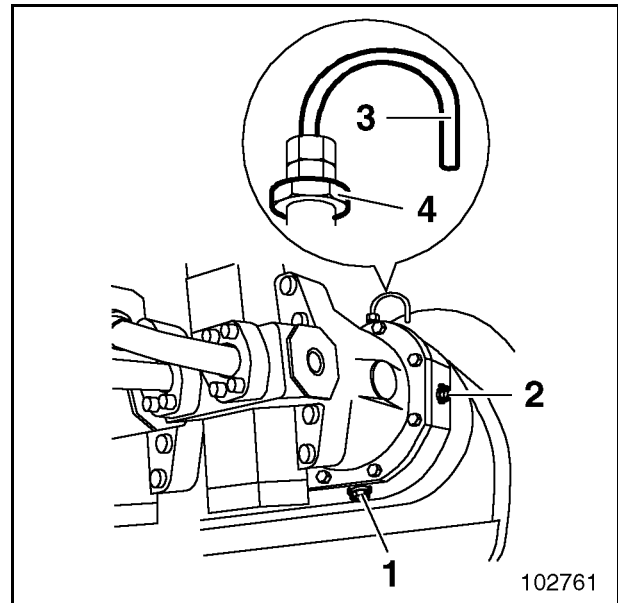

Fig. 3-127:
- Move the excavator until the screw plugs (1 and 3, Fig. 3-127:) are in the positions shown in the diagram: